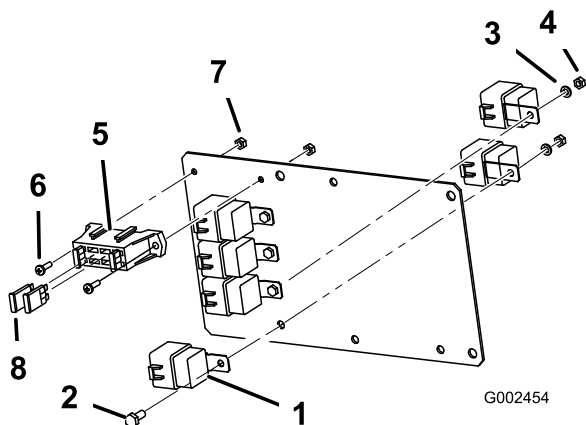

Figure 7
1. Secure 6 relays to the mount plate (Figure 7), using 4 bolts (1/4 x 5/8 inch), 4 lock washers (1/4 inch), and 4 nuts (1/4 inch). Four relays can be mounted to the front of the plate, while two relays have to mounted to the back of the plate. The two relays mounted to the back of the plate will share fasteners with the relay mounted to the front at the same hole location
- Secure the fuse block end of the wiring harness to the mounting plate (Figure 7), using 2 screws (#10) and 2 nuts (#10).
- Install two thermal breakers (30 Amp) into the open, middle slots in the fuse block on the ECU mounting plate (Figure 7).